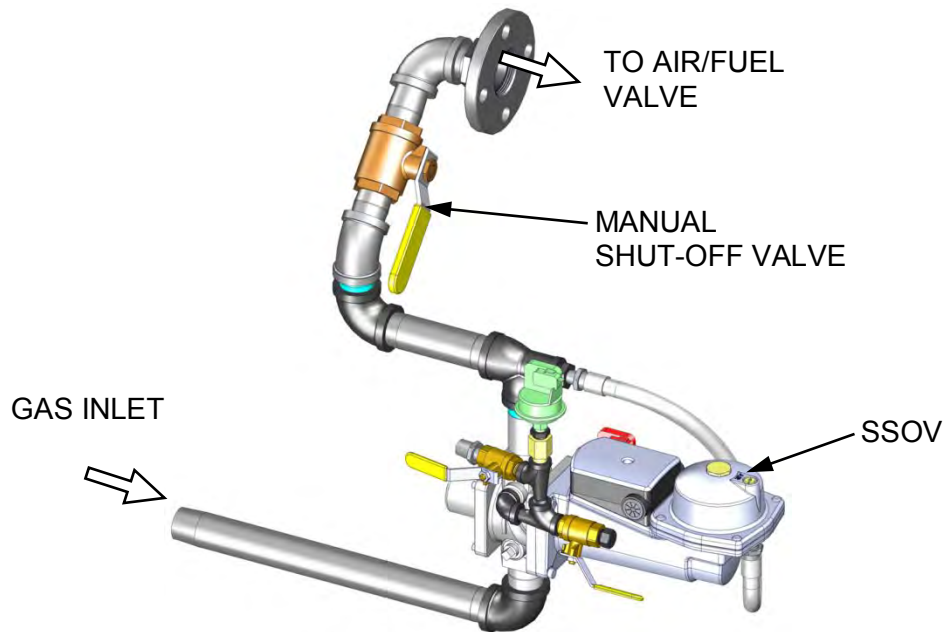

Figure 3-3: SSOV Location
2. The unit checks to ensure that the Proof of Closure (POC) switch in the downstream Safety Shut-Off Valve (SSOV) is closed. See Figure 3-3 for SSOV location.